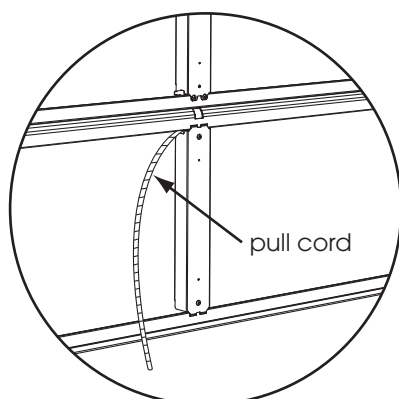

Fig: 3.9.3
- h) pass the cord through the white hinge pin on the bottom panel. Fig 3.9.3.